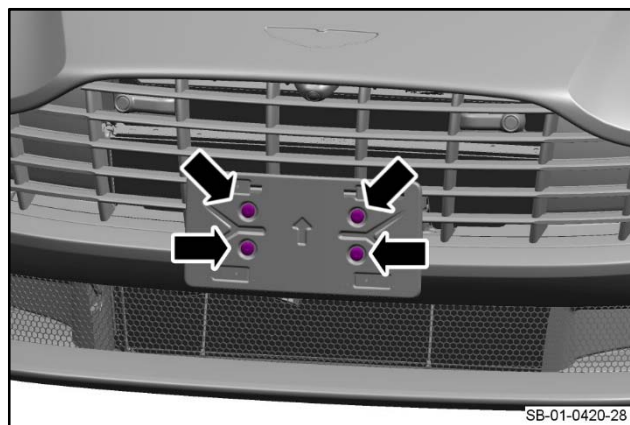

Figure 28
7. Install and torque the four screws that attach the front cover for the front license plate plinth to 5 Nm (refer to Figure 28).